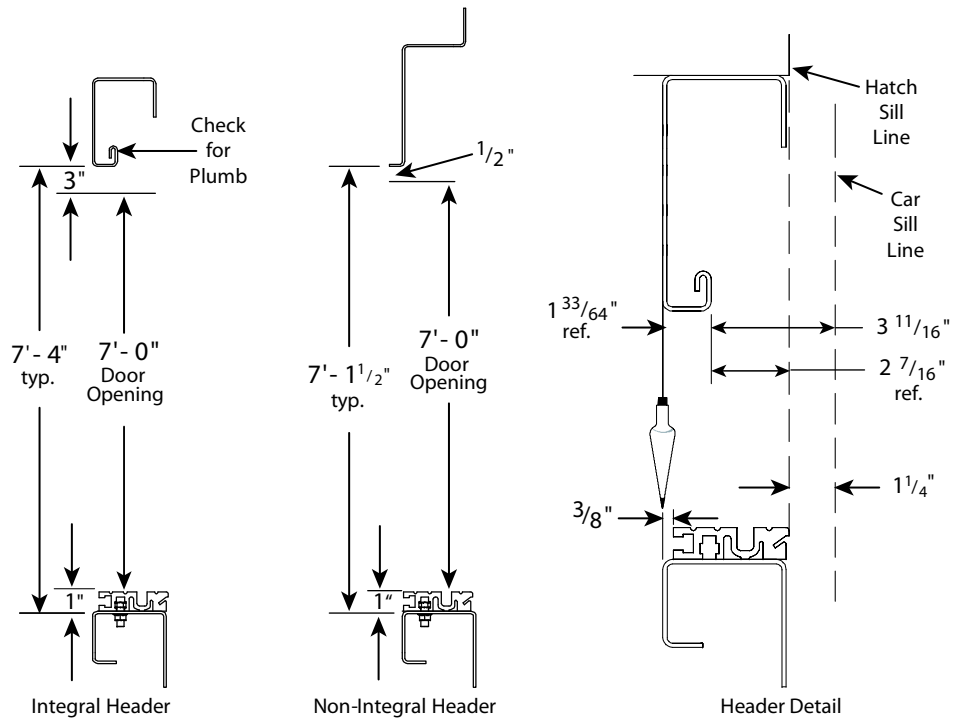

Figure 9 - Header Locations
1. Cut two (2) gauge sticks of conduit per the length shown in Table 2.
2. Use gauges to locate and support header until header is attached to the struts. See Figure 9.